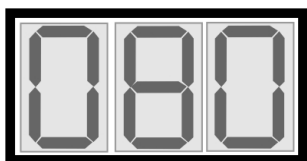

Fig.3
- The GR1 message is viewed on the display for a few seconds to confirm the slush cycle has been selected (Fig. 2); subsequently, during production, the instantaneous consistency numerical value is displayed.(Fig. 3).